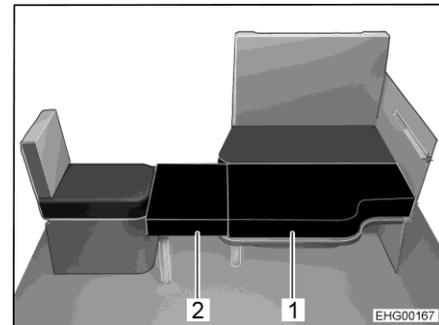

Fig. 121 After conversion
Together with the individual seat on the side and the lowered table top of the suspension table, the divan can be converted into an additional bed. Two additional cushions (Fig. 121,2) is equipped with a fold-out footrest and an angle bracket. The other additional cushion (Fig. 121,1) is placed on the table top.
- Fold footrest out on the smaller additional cushion (Fig. 121,2).
- Hook angle bracket of the additional cushion (Fig. 121,2) into individual seat and place additional cushion on the table top.
- Place the second additional cushion (Fig. 121,1) on the table top.